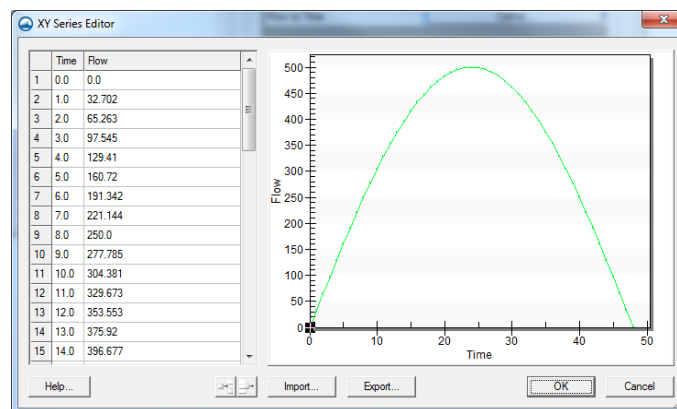

Figure 9 The dialog as it should appear once the flow values are entered
19. Copy the flow values from the *y* column in the “flow.csv” file to the *Flow* column in the *XY Series Editor* dialog. See Figure 9.